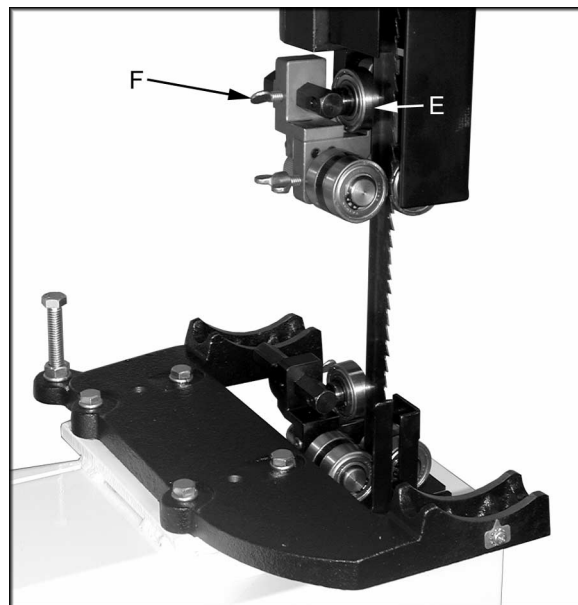

Figure 2
3. Loosen the thumb screw (F, Fig. 2) and slide the bearing and bearing post until the space between the back-up bearing (E, Fig. 2) and the back edge of the blade is approximately 1/64". A convenient way to achieve this spacing is by placing a dollar bill folded twice (four thicknesses) between blade and bearing – four thicknesses of a dollar bill is approximately 1/64". Tighten thumbscrew.